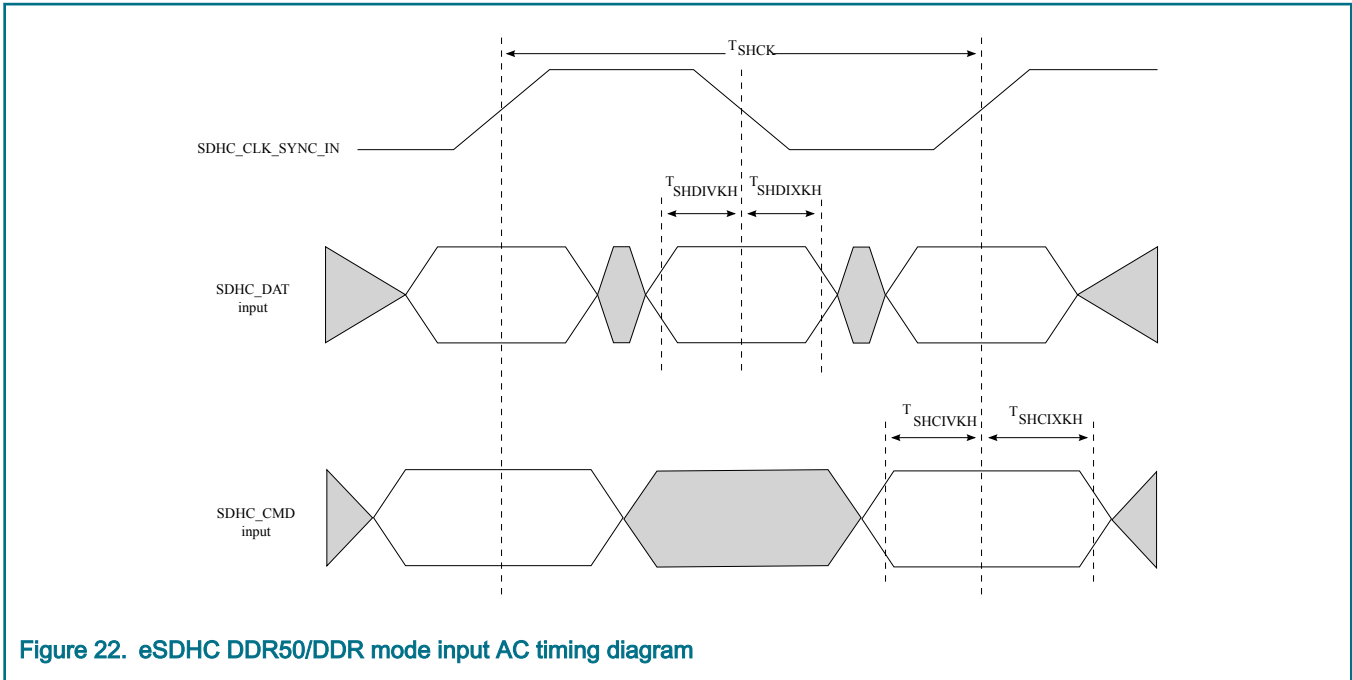
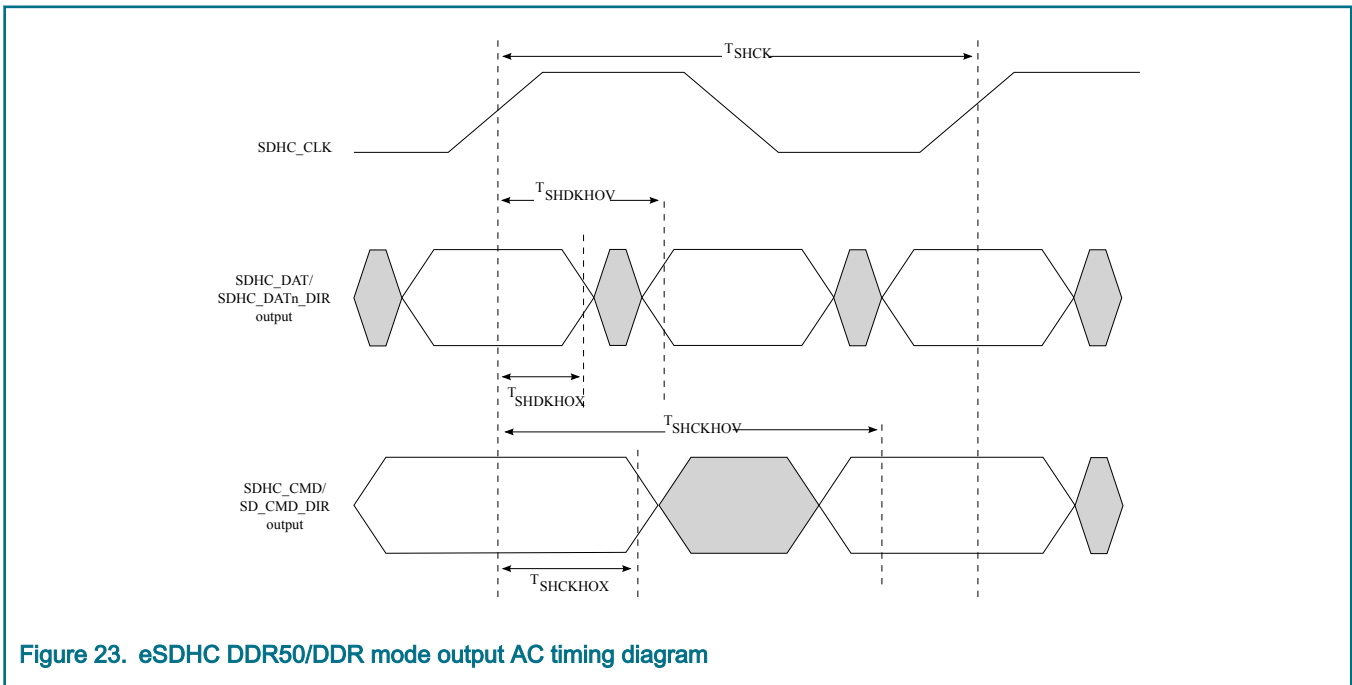

Figure 22. eSDHC DDR50/DDR mode input AC timing diagram
Figure 23. eSDHC DDR50/DDR mode output AC timing diagram
3. The symbols used for timing specifications herein follow the pattern of t_{(first two letters of functional block)(signal)(state) (reference)(state)} for inputs and t_{(first two letters of functional block)(reference)(state)(signal)(state)} for outputs. For example, t_{SHCKHOX} symbolizes eSDHC highspeed mode device timing (SH) clock reference (K) going to the high (H) state, with respect to the output (O) reaching the invalid state (X) or output hold time. Note that in general, the clock reference symbol is based on five letters representing the clock of a particular functional. For rise and fall times, the latter convention is used with the appropriate letter: R (rise) or F (fall).
4. See Figure 22.
5. See Figure 23.
<p>1. C_L = C_{BUS} + C_{HOST} + C_{CARD} ≤ 20 pF for MMC, ≤ 25pF for Input Data of DDR50, ≤ 30pF for Input CMD of DDR50.</p> <p>2. The symbols used for timing specifications herein follow the pattern of t_{(first two letters of functional block)(signal)(state) (reference)(state)} for inputs and t_{(first two letters of functional block)(reference)(state)(signal)(state)} for outputs. For example, t_{SHKHGX} symbolizes eSDHC highspeed mode device timing (SH) clock reference (K) going to the high (H) state, with respect to the output (O) reaching the invalid state (X) or output hold time. Note that in general, the clock reference symbol is based on five letters representing the clock of a particular functional. For rise and fall times, the latter convention is used with the appropriate letter: R (rise) or F (fall).</p> <p>3. See Figure 22.</p> <p>4. See Figure 23.</p> <p>5. Board skew: -0.2 to 0.2 ns</p>